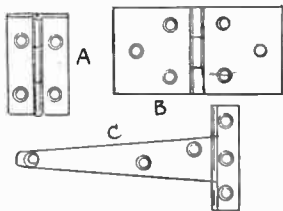

Fig. 1
The three most popular hinges are drawn in Fig. 1, (A) representing the butt hinge, universally used. Roughly there are two kinds of this pattern of hinge, the solid brass kind and the cheaper steel pattern. The latter kind, with their thick and protuberant knuckles, are only suitable for domestic kitchen articles such as safes for instance, or common wood boxes where hinging is only of